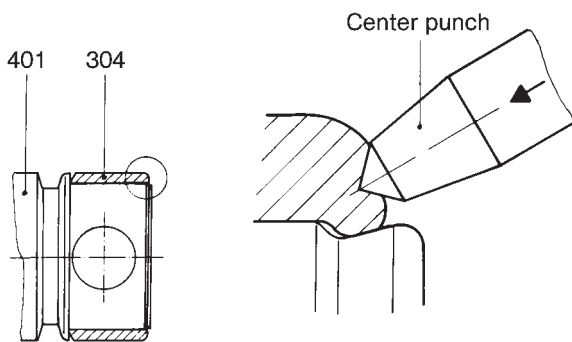

Fig. 7: Securing the retaining sleeve
- Push clamping bands (306), cover sleeves (308) and retaining sleeve (304) onto the shaft of the coupling rod (307).
- Push coupling rod (307) into the head of the rotor (401) or the hollow shaft (125).
- Push coupling rod pin (301) into coupling rod bush (302) and drive in guide bushes (303) completely.
- If necessary, emery the outside of the retaining sleeve (304) and pull it over the head of the rotor (401) or hollow shaft (125).
- After installation on the head of the rotor (401) or hollow shaft (125) the retaining sleeve (304) must be secured against axial movement.
**ATTENTION** For this purpose drive the face of the retaining sleeve (304) with a center punch mark into the groove in the rotor head (401) or drive shaft head (125), Please refer to Fig. 7.